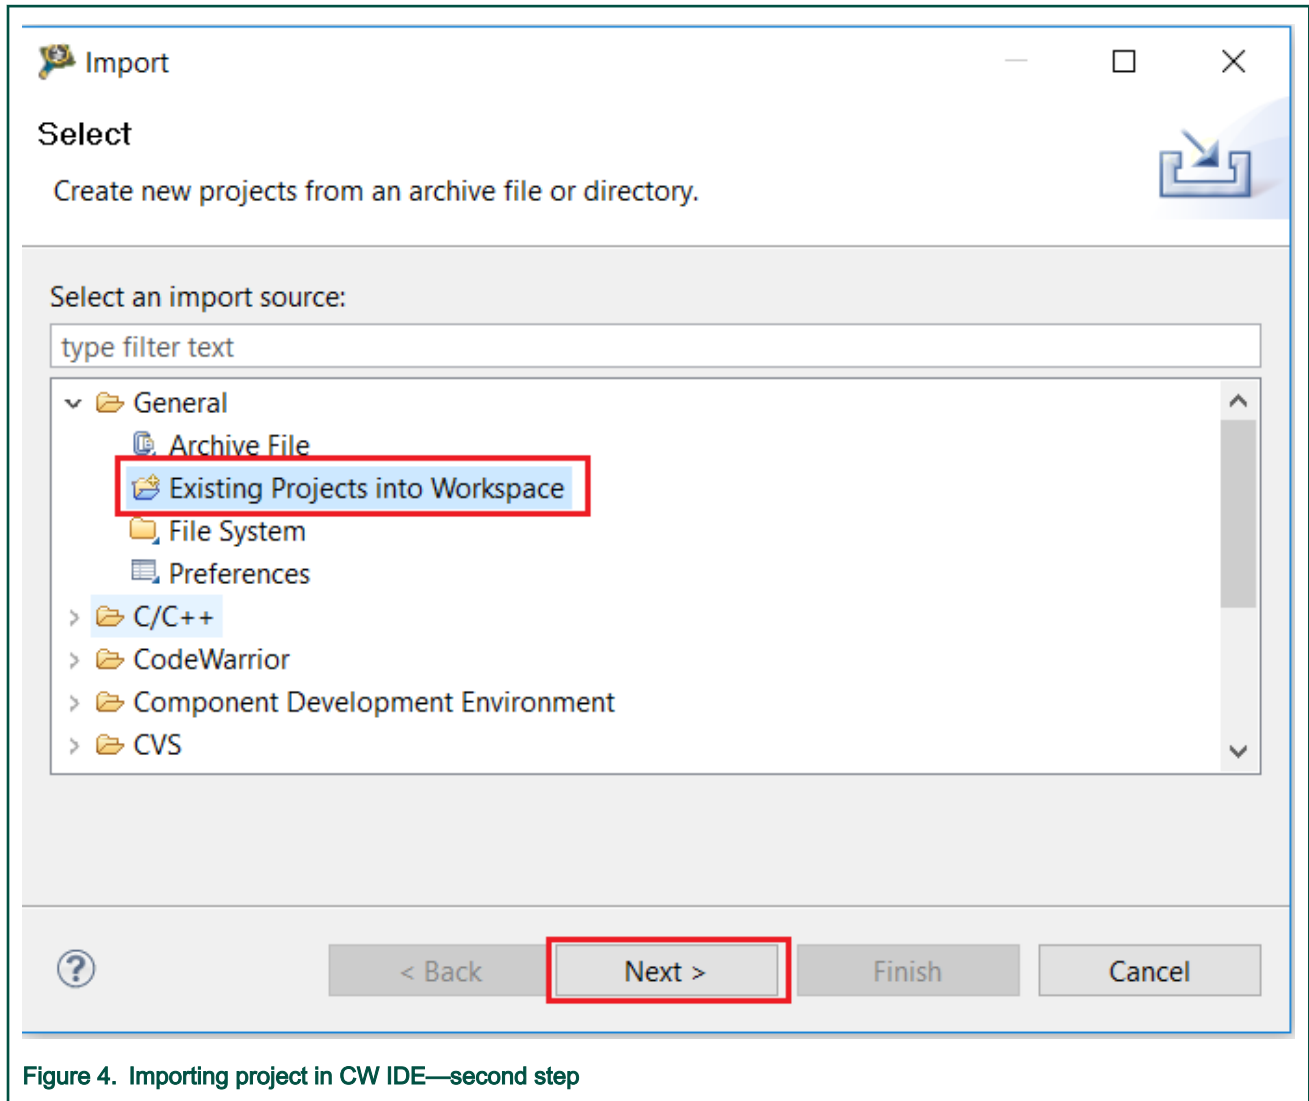

Figure 4. Importing project in CW IDE—second step
- The “Import” window opens. Highlight the “Existing Projects into Workspace” option in the “General” folder, and click the “Next” button. The window shown in Figure 4 appears. Select “General/Existing Projects into Workspace”.